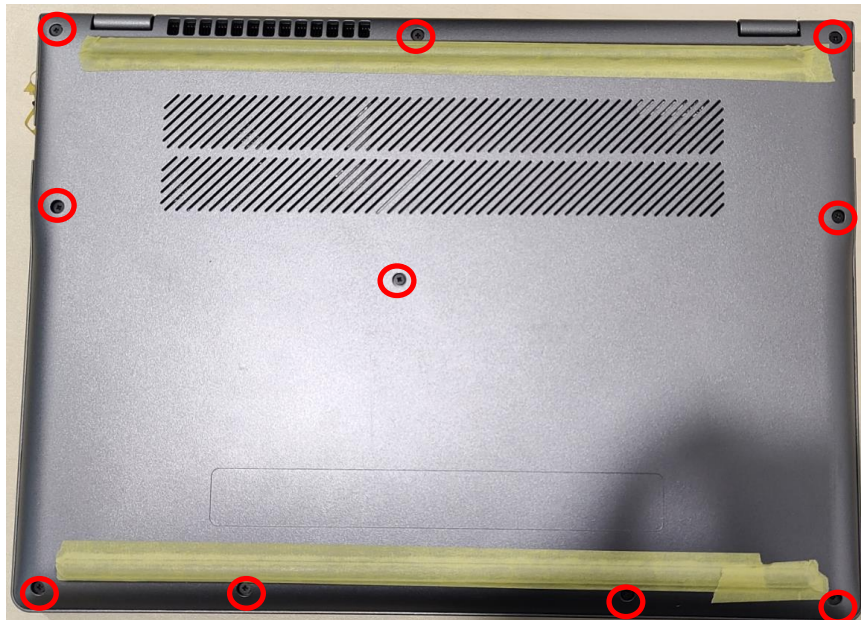

Figure 3-3. Base Cover Removal
1. Remove twelve (10) screws from the base cover (Figure 3-3).